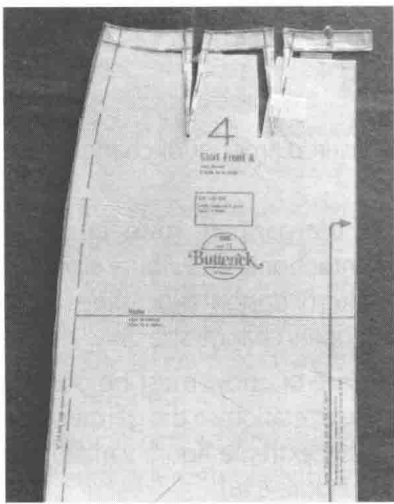

FIGURE 6.23 This alteration for a larger abdomen illustrates darts leveled at the waist so stitch lines will match.
9. Dart stitching lines must match (see Figure 6.23).